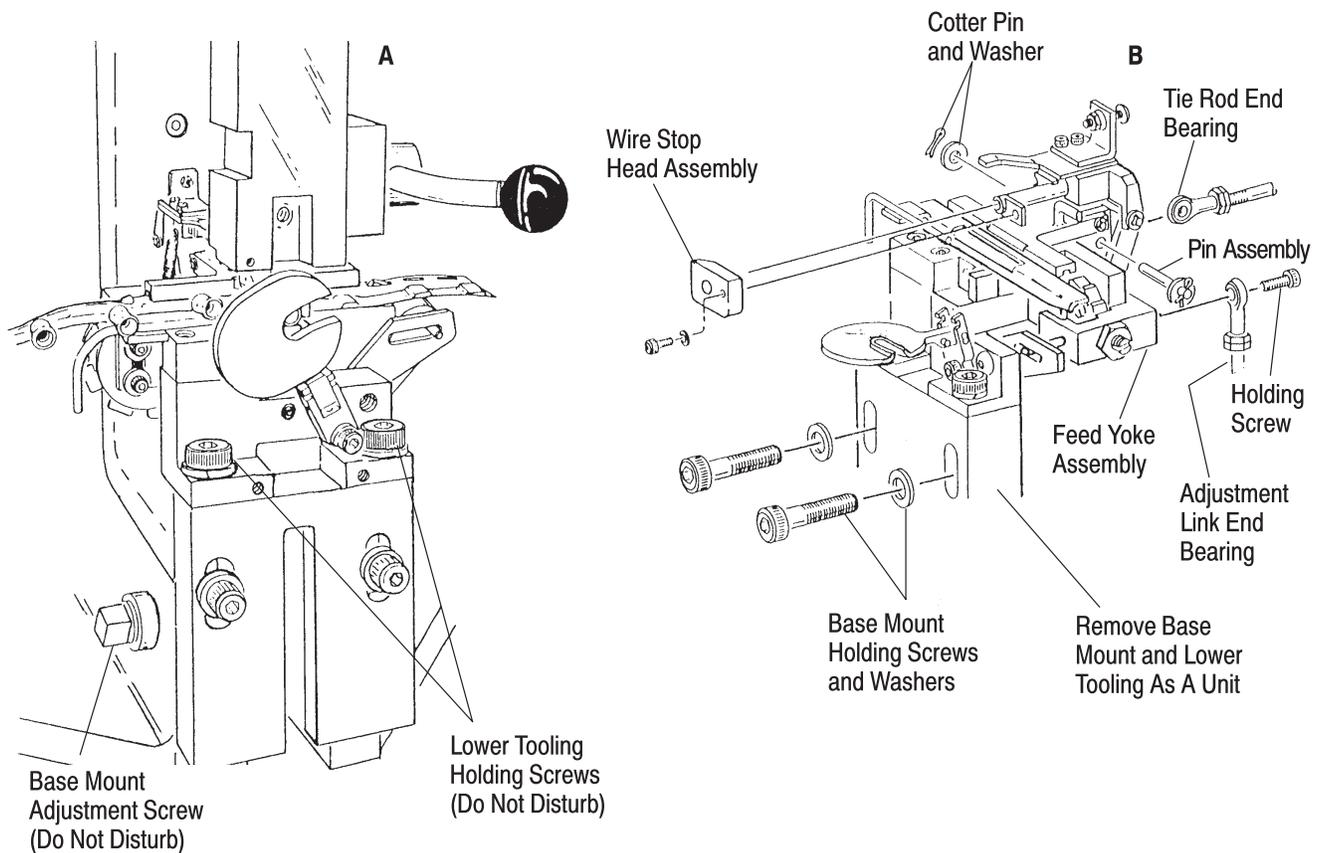
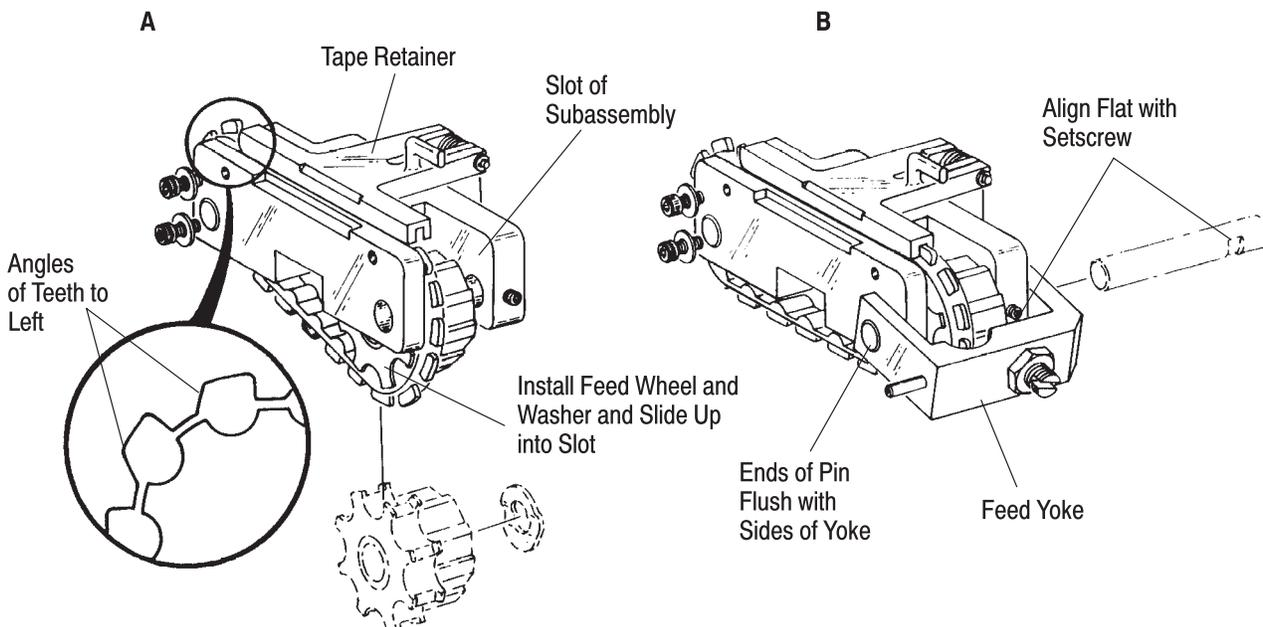

Figure 29
Figure 30
5. Remove one cotter pin and washer, then remove pin assembly from the tie-rod end bearing. Refer to Figure 29,B.
CAUTION *DO NOT* disturb the lower tooling holding screws or the base mount adjustment screw, or damage to dies may occur. Refer to Figure 29,A. These screws are factory adjusted, and they control the die alignment and bottoming. If the screws are disturbed, contact an AMP Field Service Engineer, or call the Technical Assistance Center for alignment and adjustment.
7. Remove base mount holding screws and washers as shown in Figure 29,B, then remove the lower tooling as a unit, as shown.
8. Loosen screws (104) and remove the terminal guide (20).
9. Remove screw (103) and remove metal guard (31).
10. Remove screw (53) and washer (47), then remove wire stop support assembly (11) as a unit.
11. Remove front clamp plate (9) containing pin (117) by removing two screws (46) and washers (47), then remove spring (99) while sliding index unit subassembly off of slide mount (23).
12. Remove the belt holddown (34) by removing two screws (63) and washers (64).
13. Pivot the feed yoke assembly (42) downward to gain access to setscrew (72), then loosen the setscrew. See Figure 30, B.
14. Remove special pin (33), washer (54), and feed wheel (32) from the bottom of of the subassembly.
15. Lift the tape retainer (18) and remove old tape feed belt (30).
16. Install new tape feed belt by lifting tape retainer on indexing unit, being sure that angled portion of the belt teeth are to the left of the indexing subassembly assembly as shown in Figure 30,A.
17. Slide the feed wheel, washer, and belt up into the slot of subassembly, then align pin holes and insert special pin. Align flat on pin with setscrew, then tighten the setscrew. The ends of the pin must be flush the sides of yoke, as shown in Figure 30,B.
18. Install belt holddown (34) with two screws (63) and washers (64).
19. Slide the indexing unit subassembly all the way onto slide mount (23): pin inside of yoke (42) must enter slot in connecting link (28).
20. Lay spring (99) in bottom recess in slide mount (23), then compress spring with screwdriver while installing front clamp plate (9) with two screws (46) and washers (47). Release spring to butt against pin (117) in clamp plate.
21. Slide the wire stop support assembly (11) onto slide mount (23) and install screw (53) with washer (47).
22. Install terminal guide (20) and tighten screws (104).
23. Install metal guard (31) with screw (103).
24. Install assembled base mount and lower tooling against machine base and secure with two screws and washers as shown in Figure 29,B. Refer to the CAUTION after Step 6.